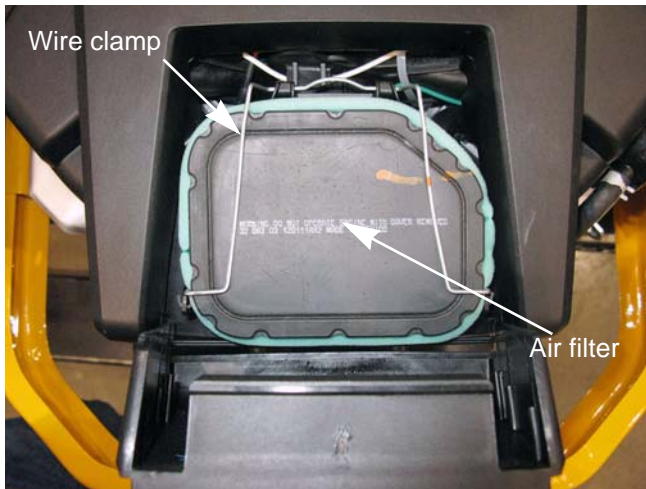

Figure 8.4
2. Unhook the wire clamp that holds the air filter in place. See Figure 8.4.